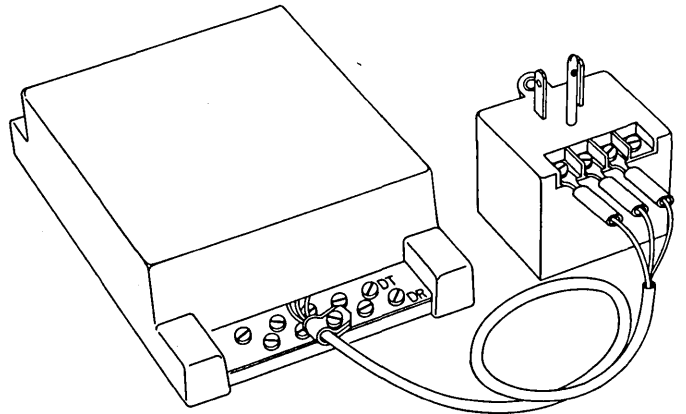

Figure B-5. Data Access Arrangement
a. If communications connection uses DAA (figure B-5), refer to 40003-107 Hardware Maintenance Manual for information on installation.